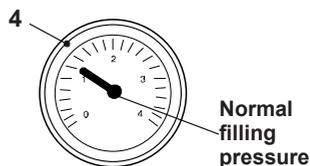

Fig. 2.2
Ensure that the c.h. circuit is regularly filled with water (even if the boiler is only used for d.h.w. supply) checking that the pressure indicated on pressure gauge 4 is not lower than that shown in Fig. 2.2.
If the pressure reading on the pressure gauge is below that shown in Fig. 2.2, then the system will require topping up. A filling loop is normally provided by the Installer for this purpose.
- Open the valves of the filling loop and watch the gauge until it reaches normal filling pressure as shown in Fig. 2.2.
you should check that the pressure on the temperature and pressure gauge (Fig. 2.2 on page 10) is not below the correct setting. If required, top up the system correctly, as described in the section "Refilling procedure" to page 10.